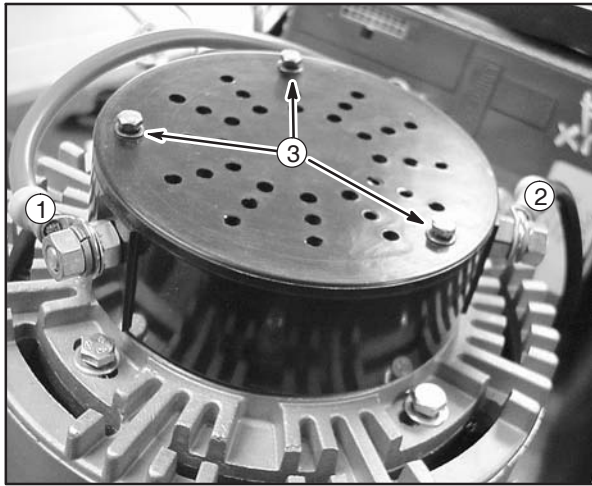

Fig. 41
1. Remove red (1) and black (2) wires at brush box terminals, Fig. 41.
2. Remove 3 screws (3), cover and brush box assembly.